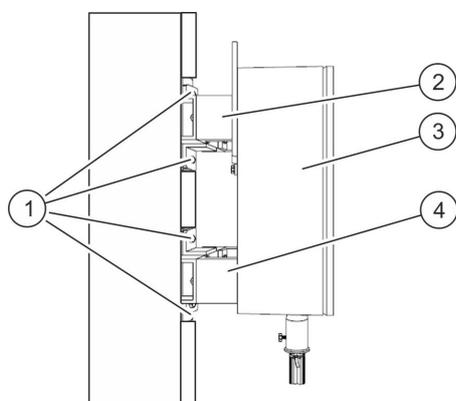

Fig. 14: Assembly on a wall
2. ➤ Draw holes (Fig. 14/1) for the retaining brackets (Fig. 14/2 and 4).
4. ➤ Fasten the retaining brackets (Fig. 14/2 and 4) to the back of the TracFeed® SFA (Fig. 14/3) with the M16 fastening bolts.
5. ➤ Screw the retaining brackets (Fig. 14/2 and 4) onto the inserted fastening brackets.
6. ➤ Connect the TracFeed® SFA (Fig. 14/3) to the railway earth for potential equalisation.